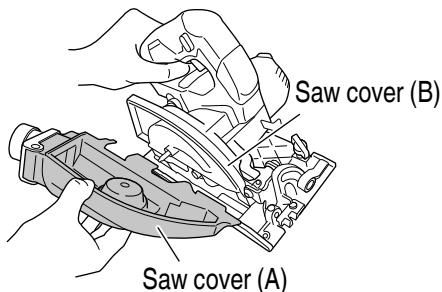

**Fig. 42**
- (1) Press the hook below the dust cover, open the dust cover and dispose the chips inside the saw cover. (**Fig. 42**)
- (2) Close the dust cover and secure it with the hook.